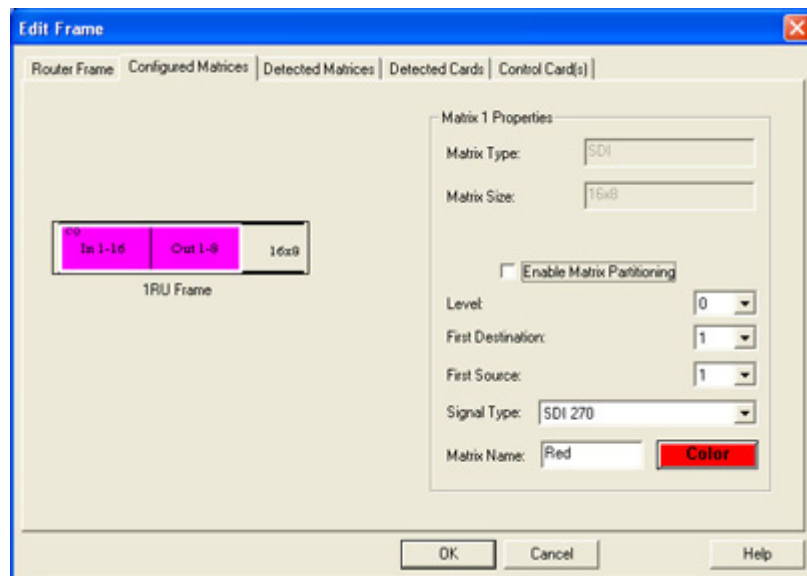

Figure 6 Configured Matrices Tab
3. Select the Configured Matrices tab. Matrix information should appear as shown in Figure 6.